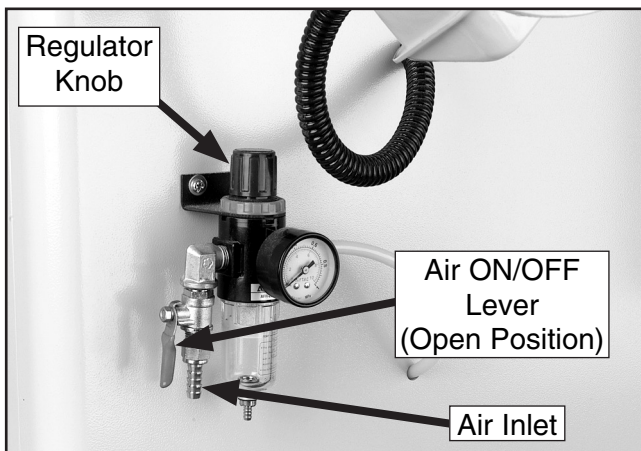

Figure 10. Air inlet located on regulator.
1. Connect the hose from your air compressor to the air inlet (**Figure 10**) on the regulator.
3. Lift the regulator knob (**Figures 10 and 11**) and turn it until the air pressure gauge reads 75 PSI. **Note:** Turn the knob clockwise to increase the air pressure and counterclockwise to lower the air pressure.